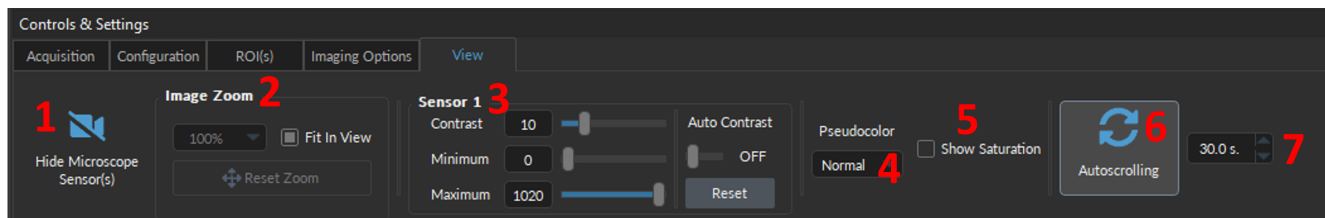

Figure 7.18: View Tab
The **View Tab** (Fig. 7.18) is used to modify the presentation of graphs in the **Acquisition view**.
1. The **Hide Microscope Sensor(s)** button (Fig. 7.18, 1) will remove the **Microscope View** from the **Acquisition View**, automatically enlarging the **ROIs / Signal View**. Disabling **Hide Microscope Sensor(s)** (renamed **Show Camera Feed(s)**) will make the **Microscope View** reappear.
2. The **Image Zoom** (Fig. 7.18, 2) includes the following:
3. The **Sensor 1** (Fig. 7.18, 3) is used to adjust contrast on a given sensor. When a microscope used has multiple sensors, multiple SENSOR sections will be displayed, one for each sensor.
- The **Auto Contrast** (Fig. 7.18, 4) will active an automatic contrast adjustment algorithm, and will set the contrast to maximize the difference between the maximum and minimum values based on current values collected. The **Reset** button re-adjusts the contrast functions to their default settings, before the algorithm was enabled.
4. The **Pseudocolor** drop-down (Fig. 7.18, 5) maps the pixels values to a pseudocolor range (of 13 possibles options) to facilitate viewing.
5. The **Show Saturation** checkbox (Fig. 7.18, 6) is only available when using the **Auto Contrast** setting. When enabled, saturation pixels will turn red. This function is only available if no pseudocolor is selected.
6. The **Autoscrolling** button (Fig. 7.18, 7), when selected, automatically set the graphs to scroll as new data appears.
7. The **Zoom range** text-box (Fig. 7.18, 8) sets the graph zoom to the value of choice, specified in the text-box.